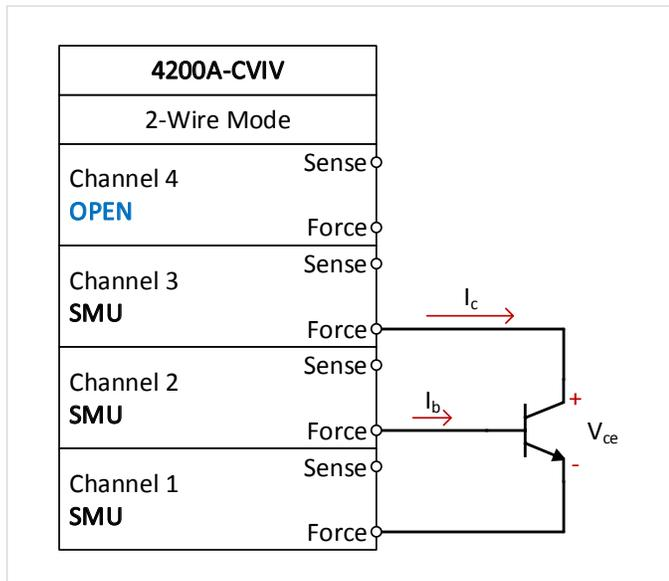

Figure 8. Configuration for I-V characterization of a BJT using the 4200A-CVIV.
**Figure 8** shows the device connections, and 4200A-CVIV settings, for an I-V test on a BJT. The configuration is shown in two-wire mode, also known as local sense, but remote sensing should be used for high current BJTs. All of the connections to the BJT are made with the 4200-TRX-.75 triaxial cables. The device can be a packaged part in a test fixture or located directly on a wafer in a probe station.